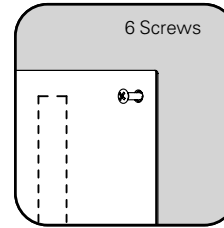

Figure 4
- 1.5 Use the #1 or #2 Phillips Head Bit, install all 6 Pürleve Door Plate Screws (Fig. 4)